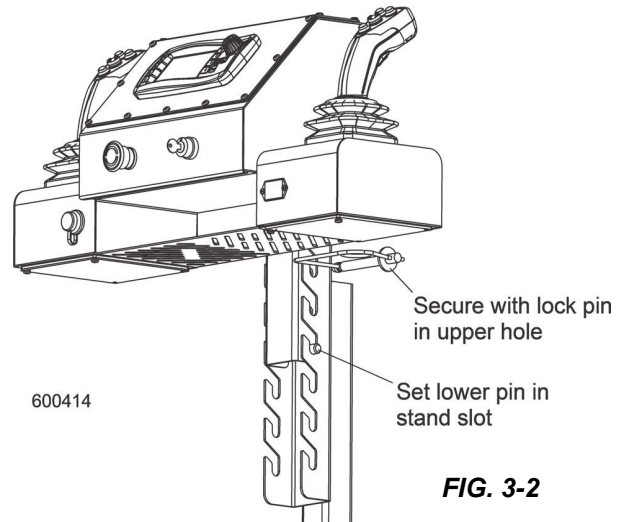

FIG. 3-2
10. Secure the control box to the stand with the retaining pin in the uppermost bracket hole. See FIG. 3-2.